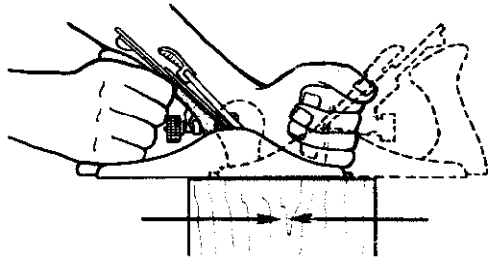
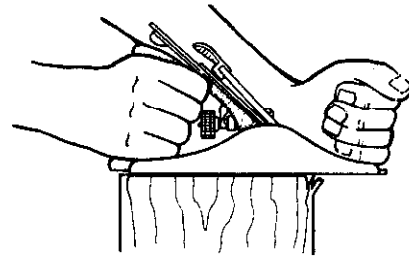

Fig. 8-31 Plane end grain halfway from each edge.
Fig. 8-32 If the plane is pushed all the way, the corners will break.
- Place the toe of the plane in contact with the surface to be planed. Plane toward the center of the board. Then reverse the plane and start planing from the opposite edge, again toward the center. See figure 8-31. Planing in this manner avoids splintering the edge as shown in figure 8-32.